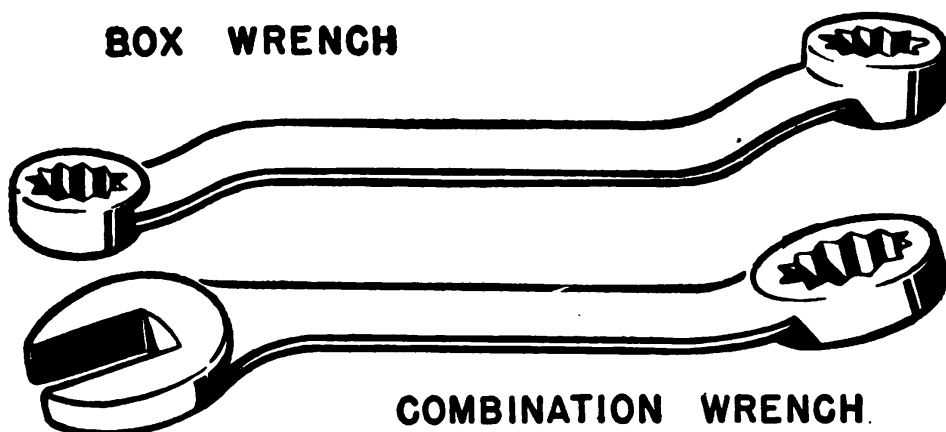

Figure 22.—Box-end and combination wrenches.
**ADVANTAGES OF THE BOX-END WRENCH.**—There is little chance for the wrench to slip off the nut, and it can't “spread” on the nut to cause undue wear. Because the sides of the “box” opening are so thin, this wrench is suitable for turning nuts which are hard to get at with an open-end wrench. The offset box-end wrench shown in figure 22 is especially useful in this respect.
After a tight nut is broken loose, it can be unscrewed much more quickly with an open-end wrench than with a box wrench. This is your cue for using a COMBINATION wrench, which has a box wrench on one end and an open-end wrench on the other. A combination wrench is shown in figure 22. You can use the box